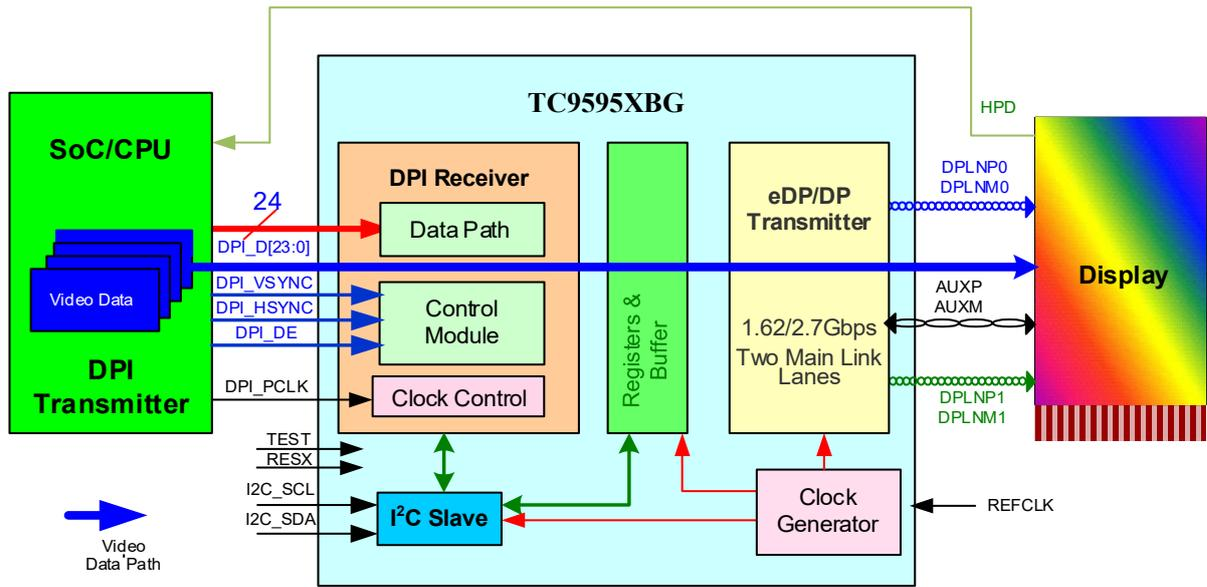

Figure 1.2 System Overview with TC9595XBG in MODE_P21 Configuration
- **Mode_P21:** A system configuration where TC9595XBG may typically be used is shown in Figure 1.2. This is similar to the Mode_S21 except that the video stream source is from DPI Host. In this configuration, the TC9595XBG can support displays with resolution up to WUXGA (1920×1200) at 24bit, 60 fps.